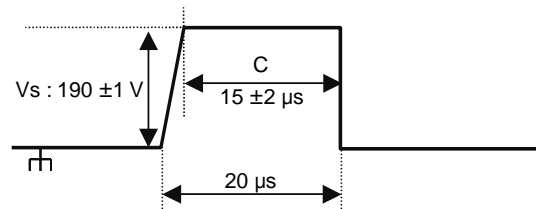

Fig. 3 Z ramp Wave form
- (3) Adjusting Vramp Voltage Wave form
- Turn the VR3 of Z board and make the "C" wave form Fig. 3 to be $15 \pm 2 \mu\text{s}$.